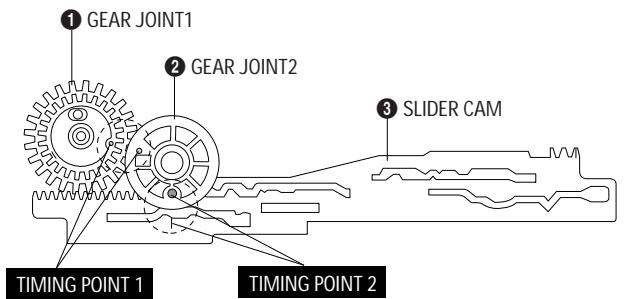

Fig. 5-20 Gear Joint 1,2 Assembly
- 1) Be sure to align dot mark of Gear Joint 1 ① with dot mark of Gear Joint 2 ② as shown Fig 5-20. (Refer to Timing point1)
- 2) Confirm the Timing Point 2 of the Gear Joint 2 ② and Slider Cam ③.